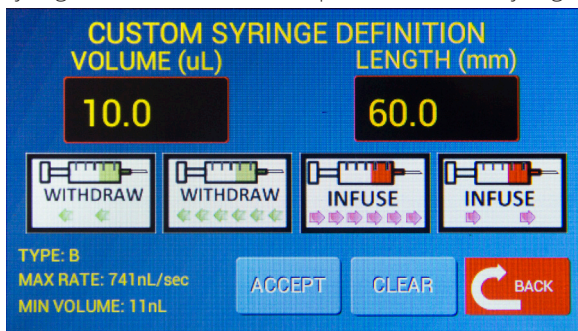

Fig. 26—Use the Custom Syringe Definition screen to define your new syringe type.
- b. Use the four white navigation buttons (*Slow Withdraw*, *Fast Withdraw*, *Fast Infuse*, *Slow Infuse*) on the Custom Syringe Definition screen (Fig. 26) to place the syringe plunger at the fully withdrawn position where the syringe scale reads its maximum value.